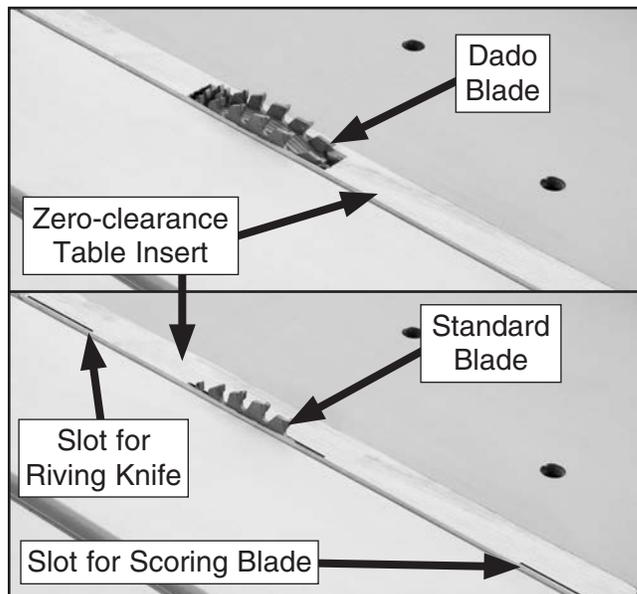

Figure 89. Zero-clearance table inserts for dado and standard blades.
- Connect the saw to power, start the motor, and slowly raise the blade into the zero-clearance table insert (see **Figure 89**) only as high as you intend to cut with the insert.